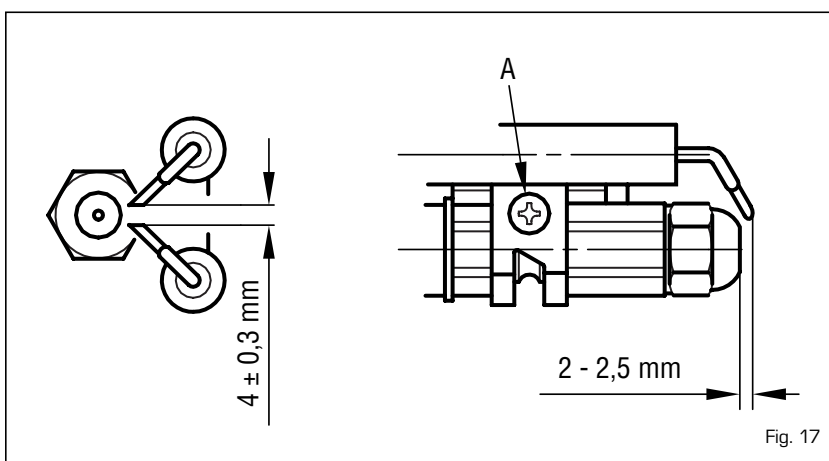

Fig. 17
The combustion head is cleaned in the following manner (fig. 17):
- Loosen the fixture screw [A fig. 17] of the electrodes support and remove it.